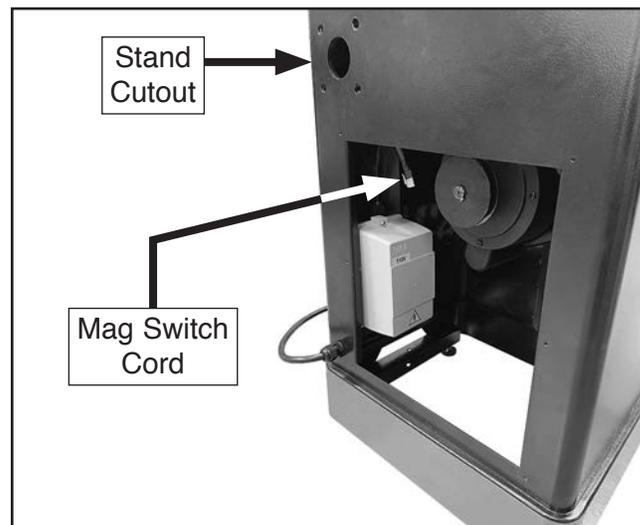

Figure 3. Connecting control panel to mag switch in stand.
22. Route control panel cord from base of column through stand cutout and connect to mag switch cord inside stand (see **Figure 3**).